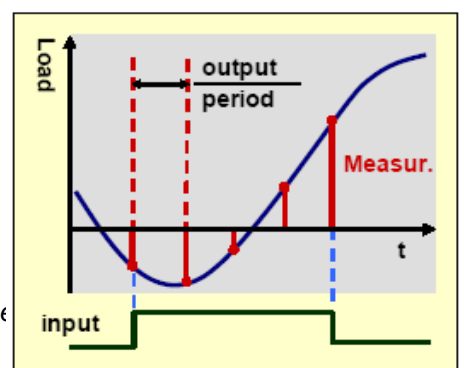

Fig. 5
6.2.2 Measurement window (Fig. 5)